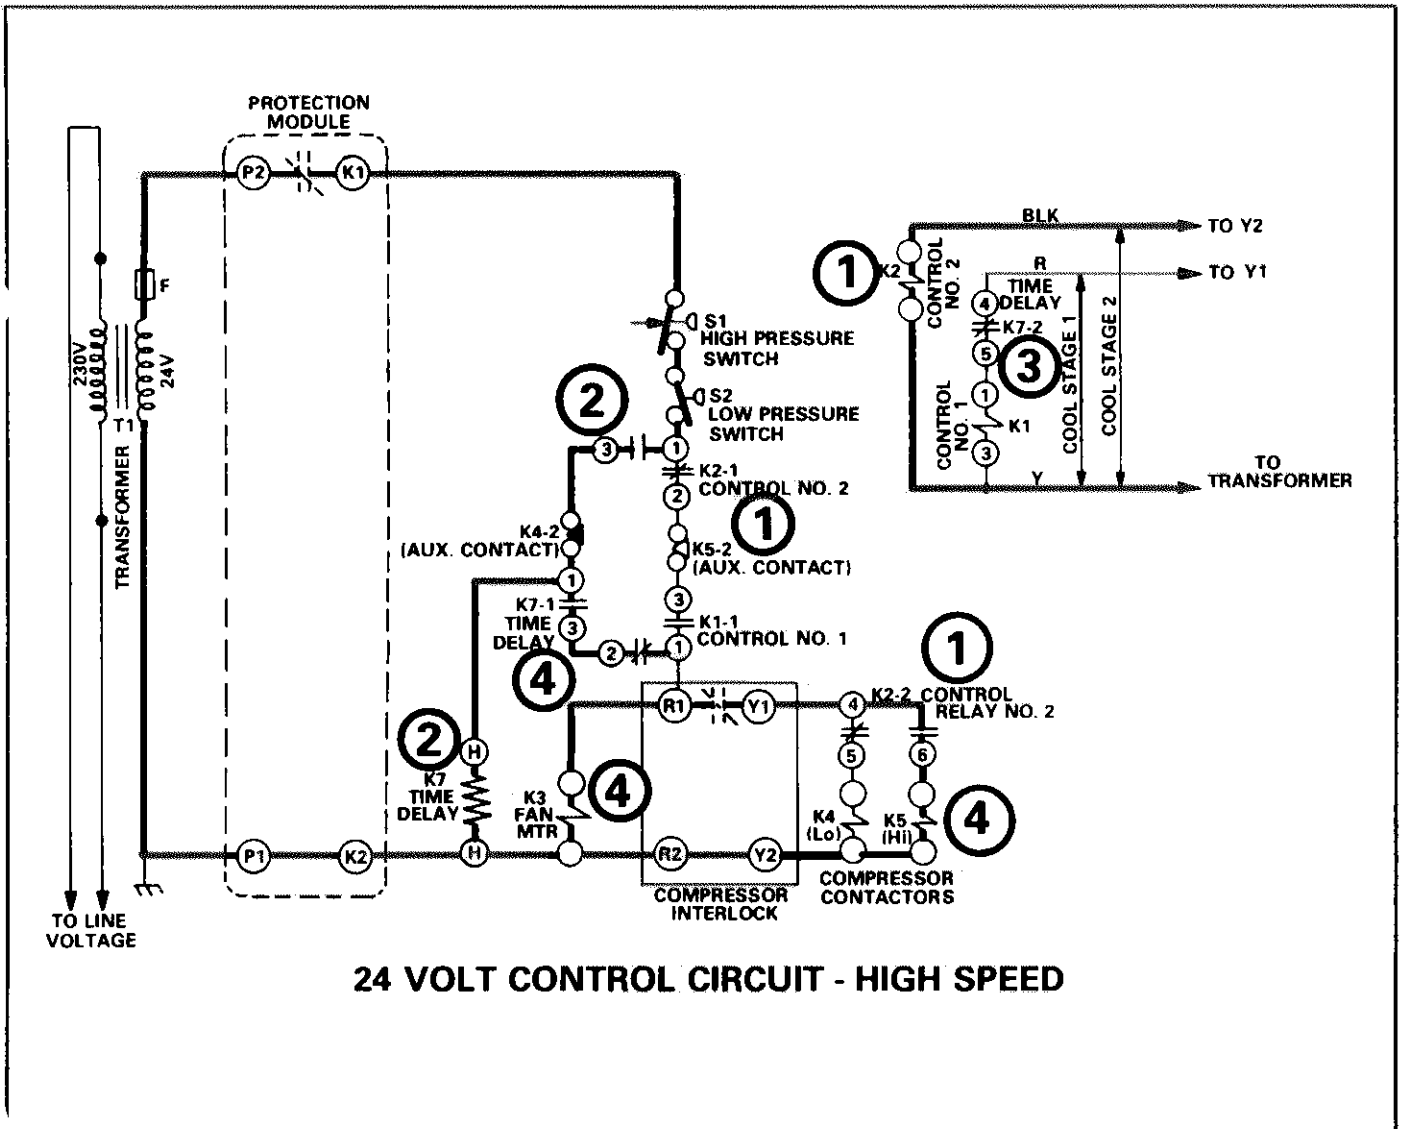

FIGURE 17
- A - 24 Volt Control Circuit (Figure 17)
### 1 - 24 Volt Control Circuit (Figure 17)